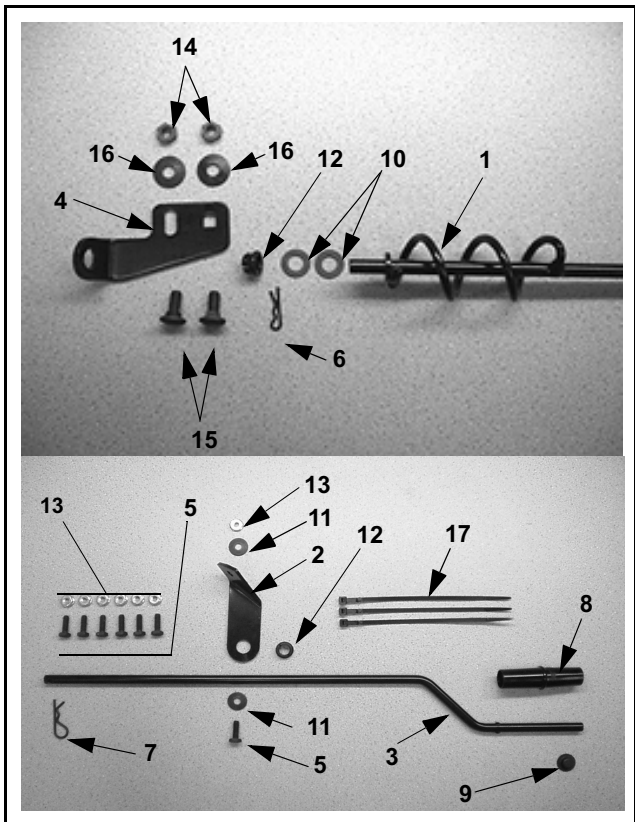

FIGURE 1
1. Remove the two (2) screws* that hold the plastic cover over the electric motor. Remove the cover*.
3. Re-route the electric motor harness up along the main harness running from the right side of the frame up towards the handle panel. Ensure that the loose connector end is protected up under the handle panel and not in contact with any metal hardware. Secure with Tie Wraps, Item 17. See Figure 1.
6. Remove the six (6) 1/4"-20 hex nuts* and 1/4"-20x .75 hex screws* that hold the ring gear assembly and Lower Chute Flange Keepers to the Lower Chute. Remove the ring gear*. Retain the Lower Chute and three Lower Chute Flange Keepers.